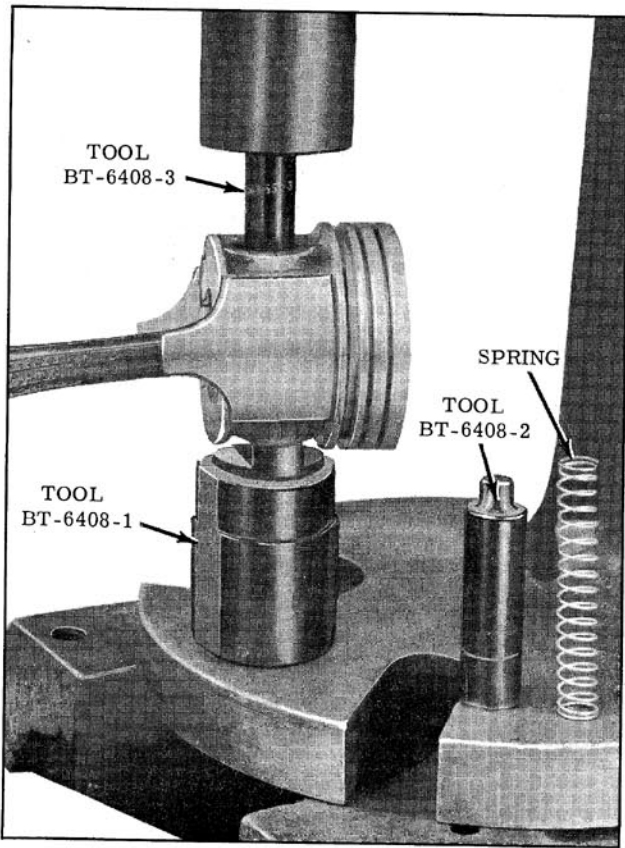

Fig. 3-86 Removing Piston Pin
2. Place Remover Tool BT-6408-3 in piston pin as shown in Fig. 3-86, and press pin out.